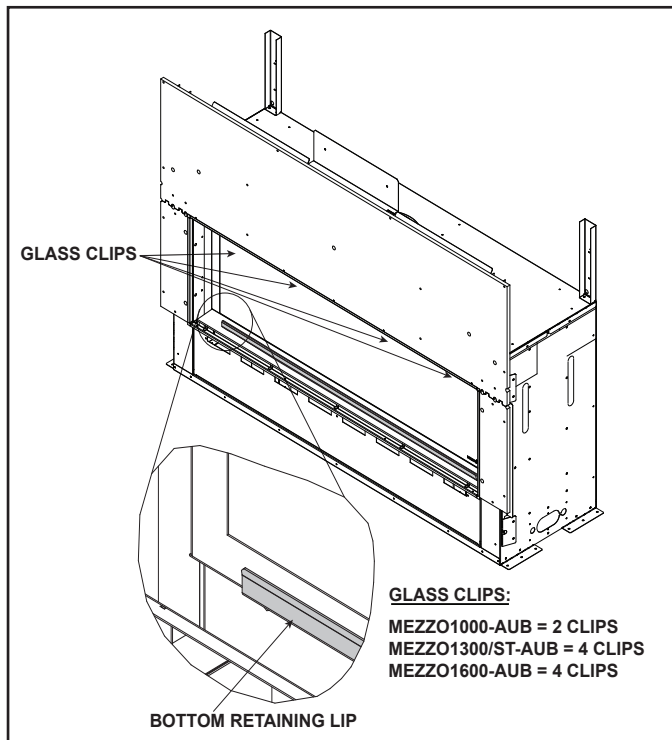

Figure 11.1 Fixed Glass Assembly
2. Locate the glass latches that are on the upper edge of the glass frame of the appliance. See Figure 11.1.